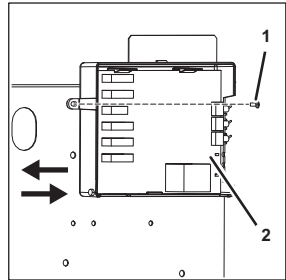

Figure 118
3. Remove the fastening bolt (Figure 118/1) from control system 1 (Figure 118/2).
4. Slide the control system to the left and lift control system 1 (Figure 118/2) out of the unit.
5. Position the new control system 1 (Figure 118/2) within the unit.
6. Slide control system 1 (Figure 118/2) to the right and push control system 1 (Figure 118/2) down until control system 1 (Figure 118/2) locks into place.
7. Attach control system 1 (Figure 118/2) using the fastening bolt (Figure 118/1).